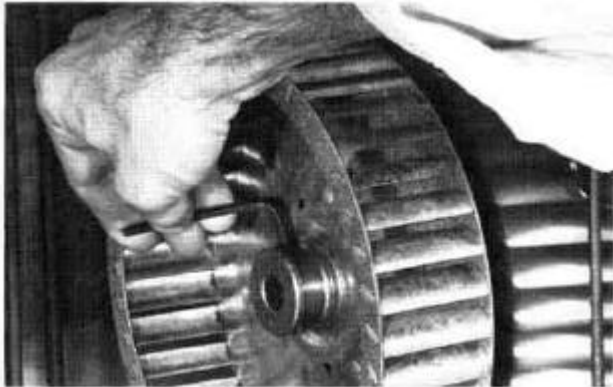

Figure 11
3. Loosen the 2 hex-key set screws on the blower wheel and remove the wheel from the motor shaft. (See Figure 11)